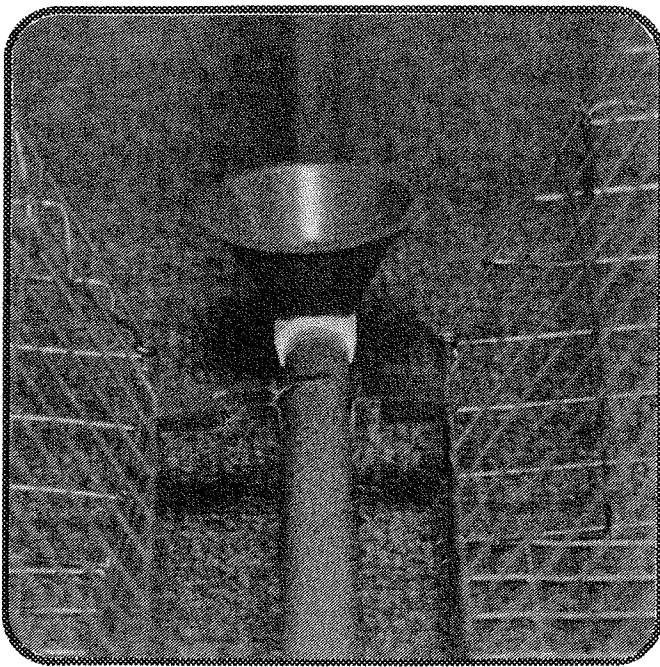

Figure 21.
1. Center the bracket as shown in Figure 21. Bend the outside tabs down around horizontal cage wires far enough so that the birds do not rub against them.